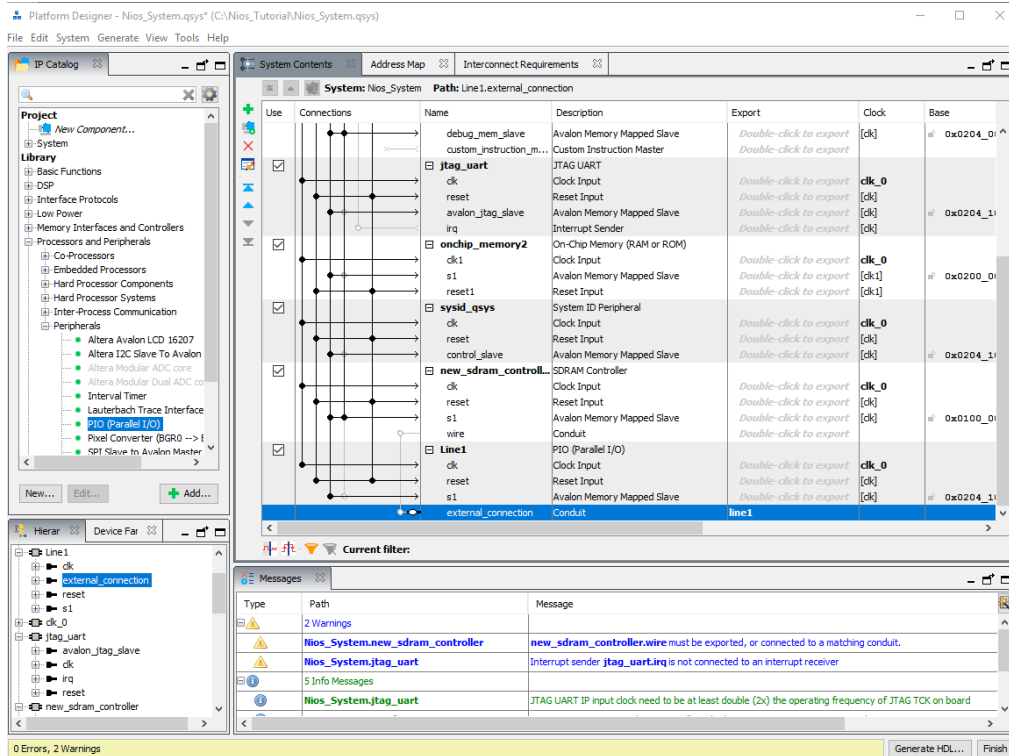
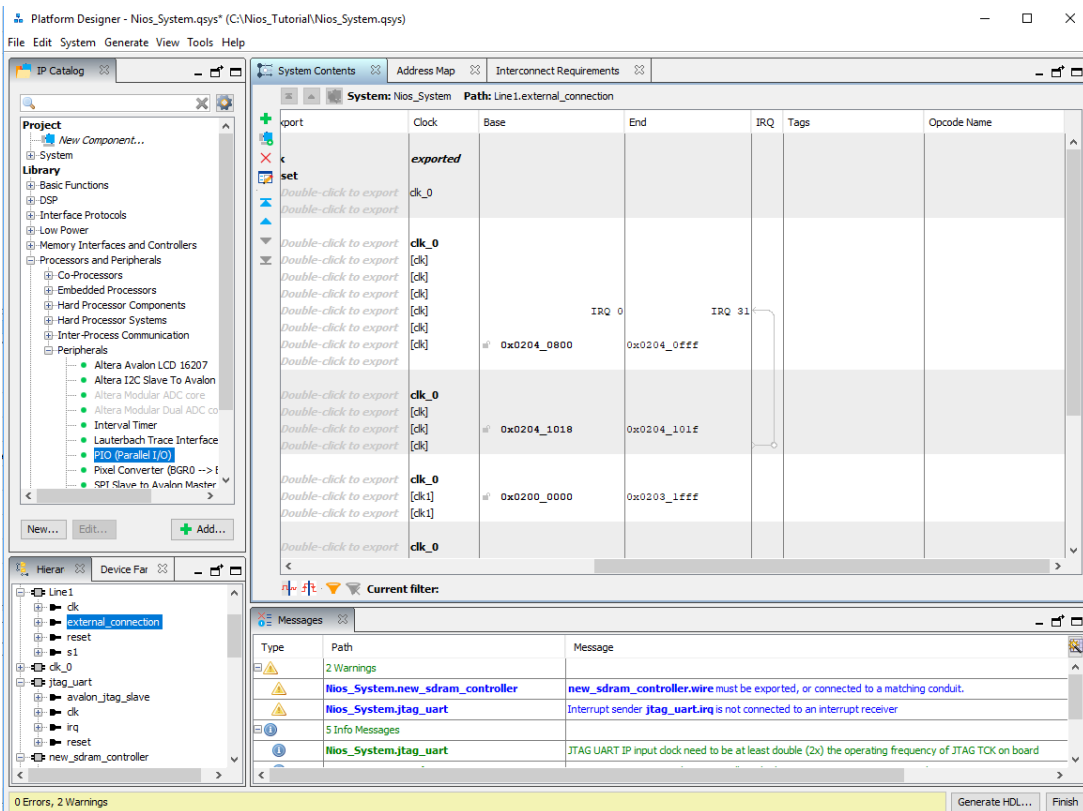

Figure 1-32
Figure 1-33 Assigning interrupt numbers
21.) Now you see that we only have a couple of warning shown in Figure 1-32. To get rid of those warnings, we will assign Interrupt Numbers shown in Figure 1-33 and 1-34.